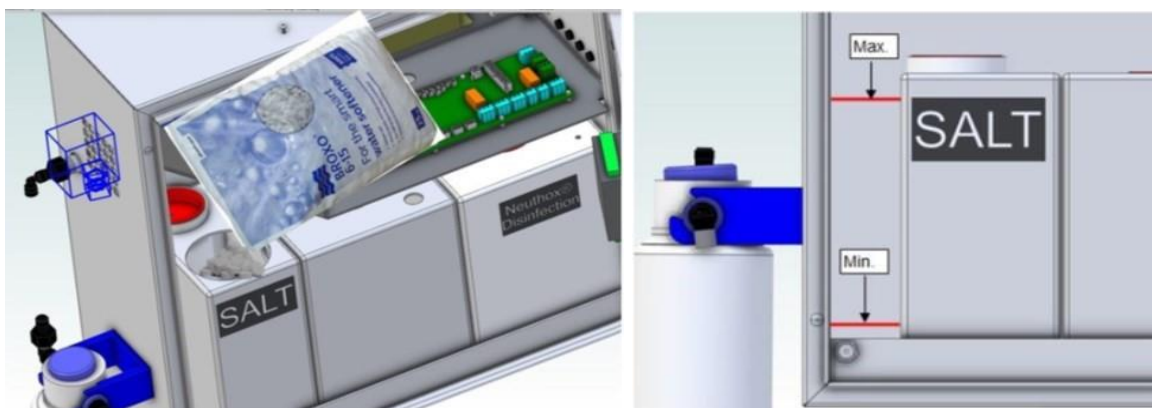

Figure 66 - Filling salt in brine tank
3. Add 5-8 kg salt into the water filled brine tank (Figure 66).